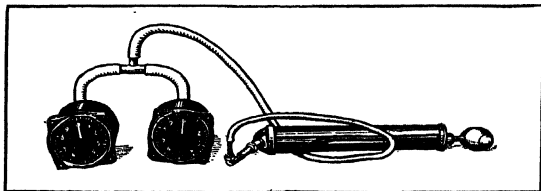

FIG. 31.—Air pump for testing with standard instrument.
**Apparatus for Tests on Airplane.**—Test material, shown in Fig. 31, consists of a hand-worked vacuum pump;1 three rubber tubes with a T connection; and a specially tested altimeter as a standard.2